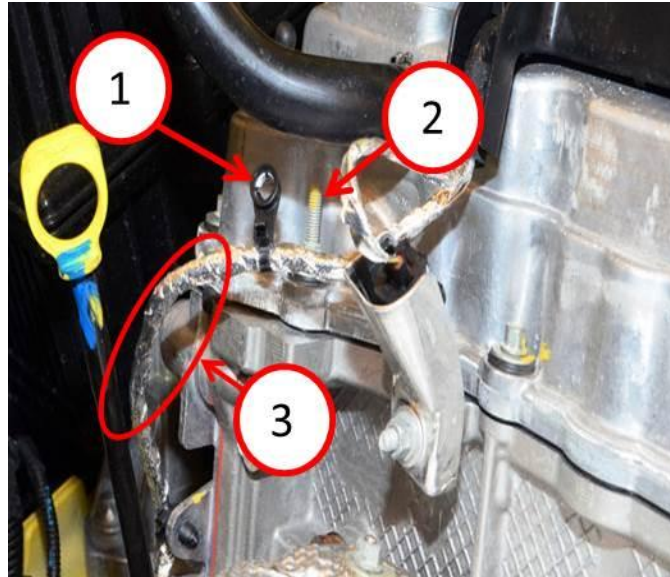

Fig. 3 Reflective Tape And Retainer
7. Using a suitable tool, remove plastic wire harness retainer from threaded stud (Fig. 3).
8. Using a suitable cutting tool, carefully cut reflective tape open and remove from engine harness in the area shown to expose three terminated wire ends (Fig. 3).